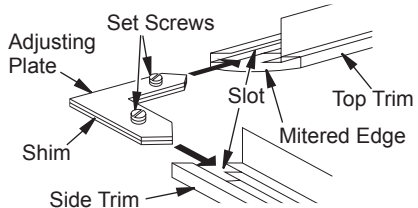

Figure 13 - Assembling Perimeter Trim
- Align shim under adjusting plate as shown in Figure 13.
- Slide one end of adjusting plate/shim in slot on mitered edge of top trim (see Figure 13).
- Slide other end of adjusting plate/shim in slot on mitered edge of side perimeter trim (see Figure 13).